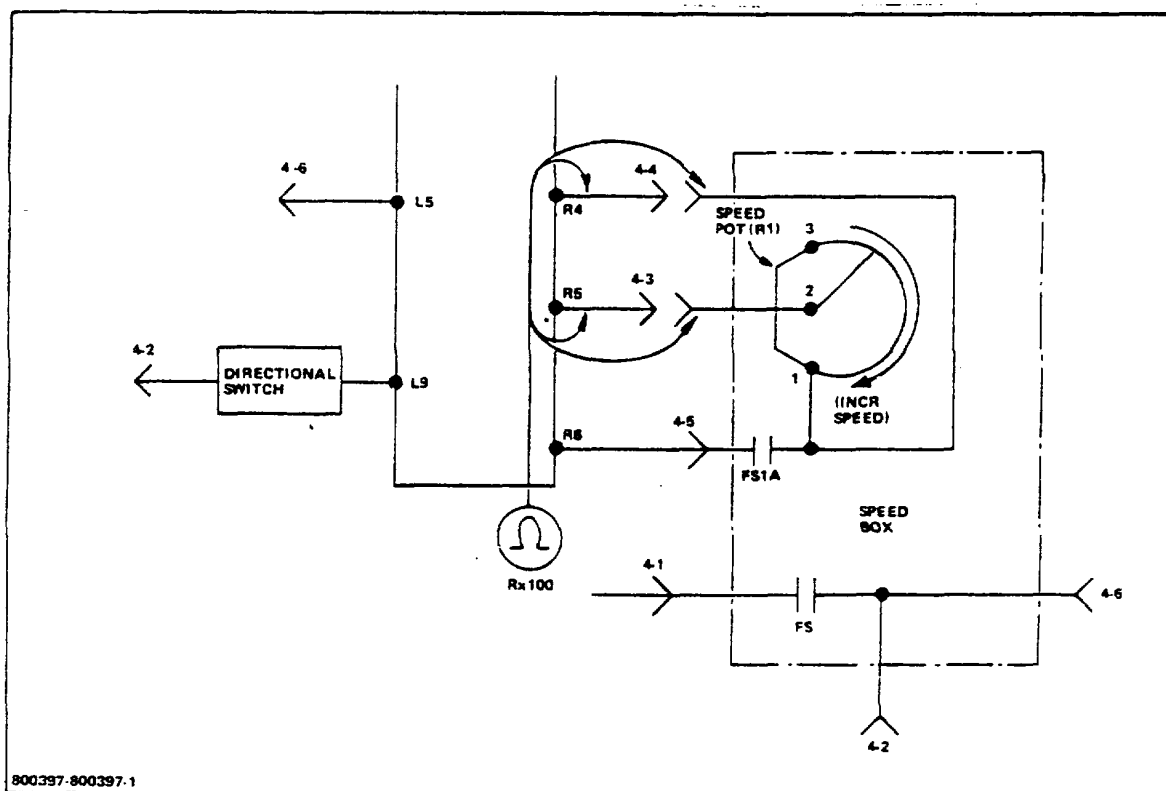

Figure 3-2. Speed Pot resistance Test Connections.
1. Disconnect the battery. Set the meter on the Rx100 scale, and zero the meter. Disconnect plug P4 at the speedbox, and connect the meter to terminals 4-3 and 4-4; or disconnect and tag all wires from terminals R4 and R5 of the oscillator card, and connect the meter leads to the wires removed (Fig 3-2).